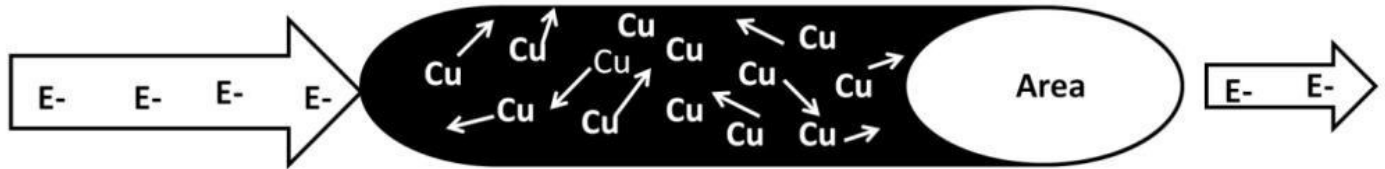
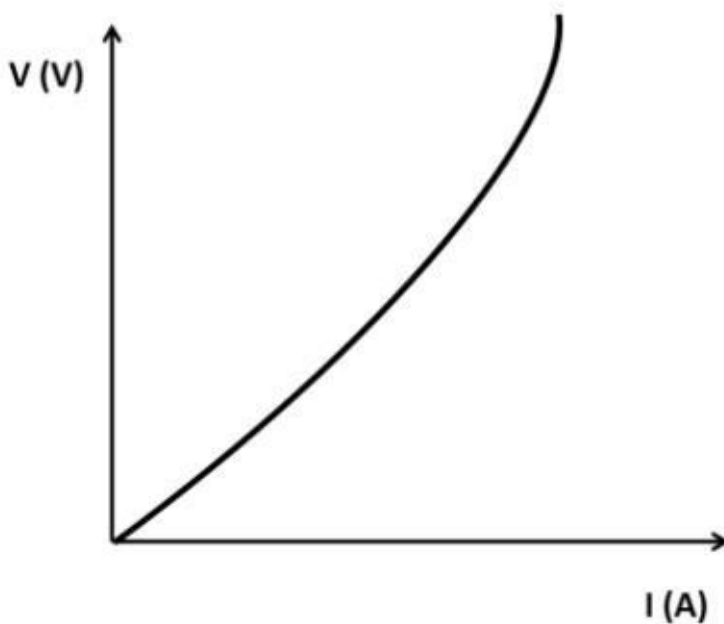

Figure 1.23: Resistor heating effect
Figure 1.24: Resistor temperature
This question tests how much you know about non-ideal resistors behavior. Back in figure 1.3, Ohm’s law is depicted as a linear function. In reality, it’s a linear relationship only up to a certain point. This point is determined by how hot the resistor gets. Figure 1.23 shows this heating effect. As electrons (E^- , current in reverse direction) pass through a resistor made of copper (Cu), the resistor heats up causing random copper ion movements by the electron bombardment. This random motion decreases the likelihood of available electrons passing through Cu atoms. This causes the resistance to go up. These random copper ions’ movements are the electrical noise source. Noise is unwanted signals interfering with circuits. It comes from many different sources, adversely affecting circuit performance and corrupting ground signal. Noise is particularly apparent in AC systems. The V versus I resistor function (see figure 1.24), unlike an ideal resistor I-V curve, is a non-linear function with increasing slope, i.e., increasing resistance. This phenomenon is called temperature coefficient (TC) where resistors’ TC is positive. This means resistances go up with temperature. The exponential part of the curve depends largely on the resistor’s power rating. If it’s within or below the rating, it may not show up in the datasheets. Product datasheets are documentation provided by the electronic device manufacturers detailing device features, functions, descriptions, and ratings, along with device symbols, conditioned parameters, and specifications (spec). They often include graphs, waveforms,